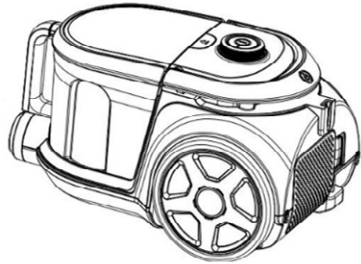

Fig. 4
4. **Fig.4: How to check the winding of the power cord.**